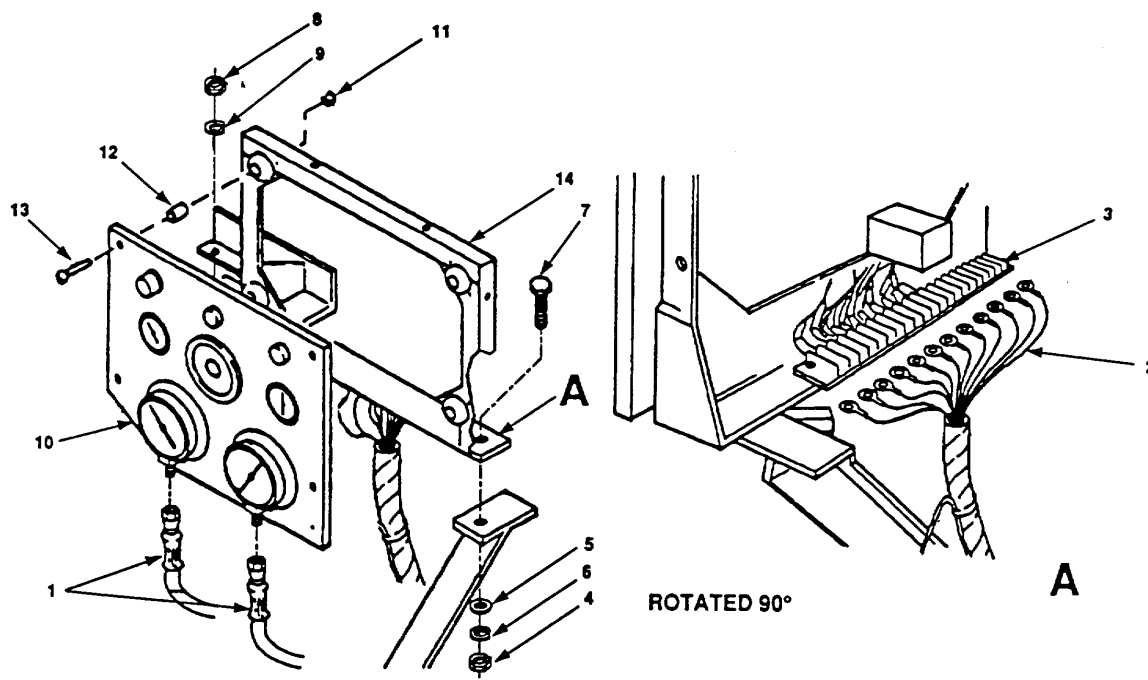

Figure 4-41. Control Panel Removal and Installation.
- a. Tag and disconnect two hoses (figure 4-41, 1).
- b. Tag and disconnect all wires (2) from terminal board (3).
- c. Remove nut (4), lockwasher (5), washer (6) and bolt (7).
- d. Remove two nuts (8) and lockwashers (9).
- e. Remove control panel assembly (10).
- f. Remove four lock nuts (11), spacers (12), screws (13) and control panel assembly (10) from support bracket (14).
- a. Install control panel assembly (10) on support bracket (14) using screws (13), spacers (12), and lock nuts (11).
- b. Set control panel assembly (10) with support bracket (14) on pump housing.
- c. Install two lockwashers (9) and nuts (8).
- d. Install bolt (7), washer (6), lockwasher (5) and nut (4).